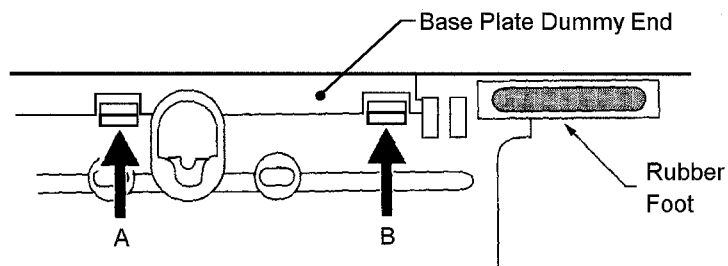

Figure 6-35: Removing Base Plate Dummy End
- If an adapter is being installed, press tabs A and B to remove the dummy end from the base plate as shown in *Figure 6-35: Removing Base Plate Dummy End*.